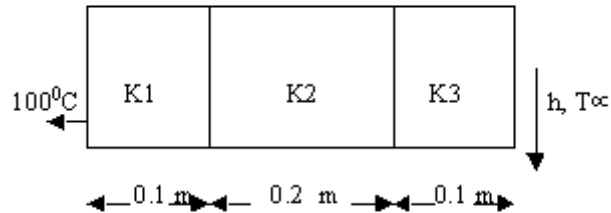

Figure 6
6. Estimate the temperature distribution in 1-Dimensional slab as shown in figure 6.